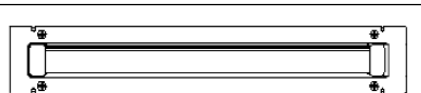

Fig. 1 Front Plate
- Remove the front plate of the step. (Fig. 1)